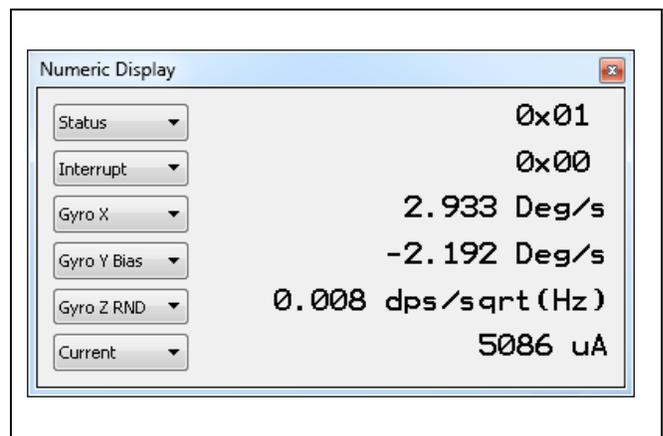

Figure 25. Numeric Display
- **Numeric Display:** This view permits the user to visualize the current value of some information that can be chosen among a set of possibilities (Figure 25).